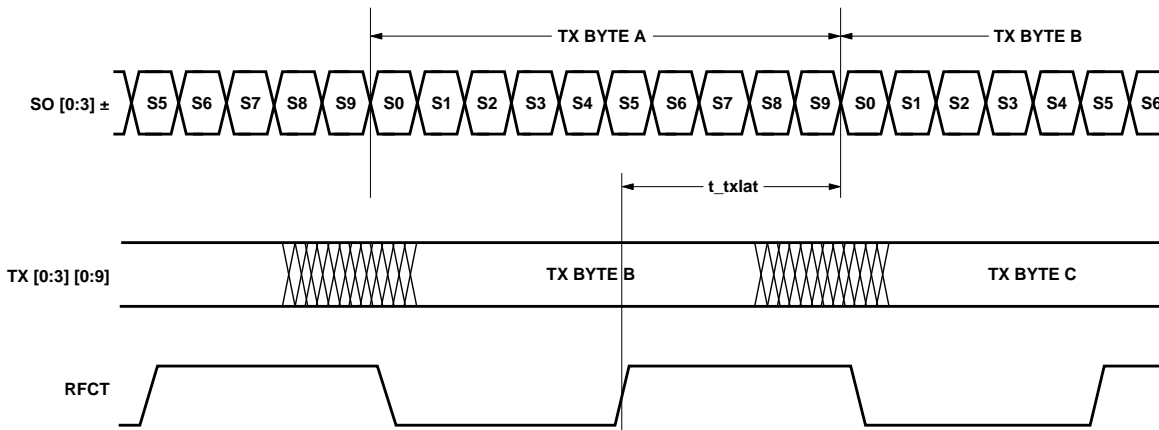

Figure 4. Transmitter latency.
- The transmitter latency, as shown in Figure 4, is defined as the time between the latching in of the parallel data word (as triggered by the rising edge of the transmit byte clock, RFCT) and the transmission of the first serial bit of that parallel word (defined by the edge of the first bit transmitted).